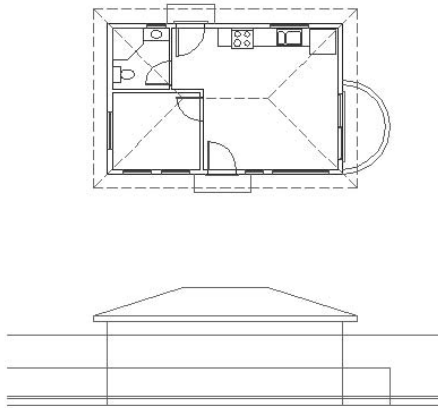

FIGURE 8.11 : The completed roof in elevation
10. Use the Line command to draw the two hip lines from the roof edge to the ridgeline. Zoom in to do this if you need to; then Zoom Previous when you're finished to view the completed front elevation of the roof (see Figure 8.11).